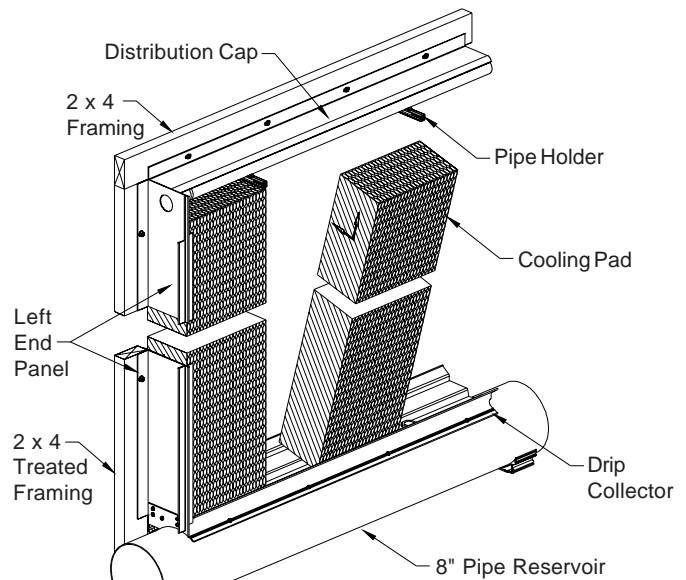

Figure 15
21) Make sure caulk is dry and begin putting cooling pad in place, taking care to position pieces tight together. If your pad has Directional Arrows, position arrows to point upward and to the inside of the building. **See Figure 15.** Continue this pattern, stopping at the next to the last piece of pad.